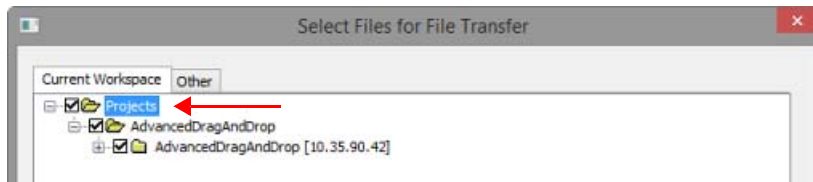

FIG. 75 Select Files for File Transfer dialog
- d. Select the top-level **Projects** folder to select all files in the workspace for transfer (FIG. 75):